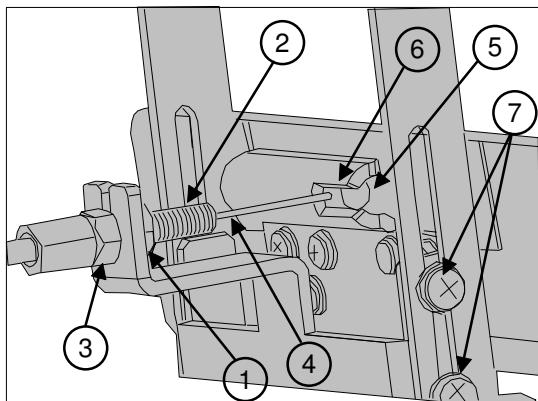
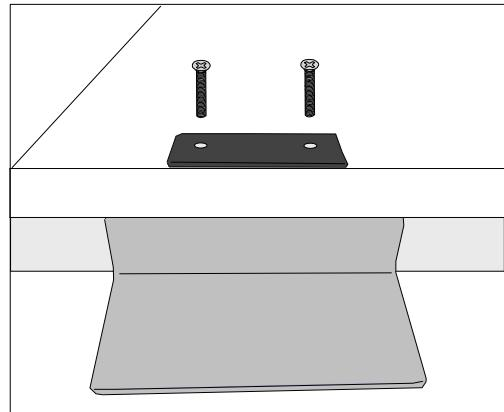

FIG. 2
FIG. 4
Unscrew the front nut (1) on the valve cable and insert the cable (4) through the slot on the back side of support bracket AG250-103 pedal. The rear nut (3) remains at the end of the thread (2). Adjust cable holder (2) for proper pedal operation and secure its position with nuts (1) and (3). Control cable (4) should be snug. (FIG. 2)
- Insert valve cable end T-bar (5) into the pedal lever (6). (FIG. 2)
3. Use provided #10 screws to attach the pedal. (FIG.4) Pedal position can be adjusted using four screws (7) on side of pedal assembly. (FIG. 2)